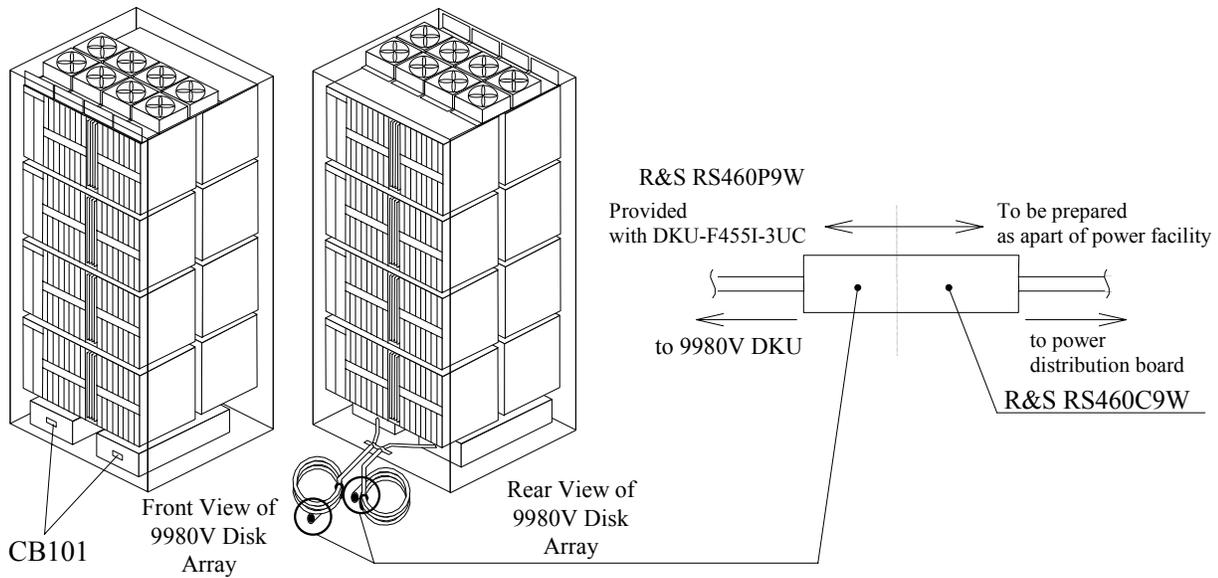

Figure 5.11 Power Plugs for Three-Phase 9980V Disk Array Unit (USA)
- Figure 5.11 illustrates the power plugs for a three-phase 9980V disk array unit (USA).